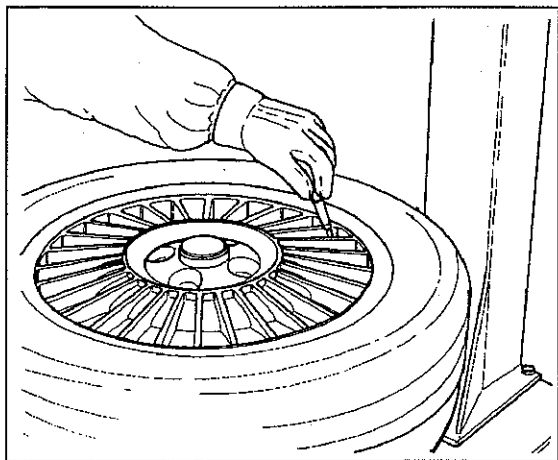

Fig.14
A. Remove all wheel-weights from the rim. Remove the valve stem or core and deflate the tire (Fig.14).